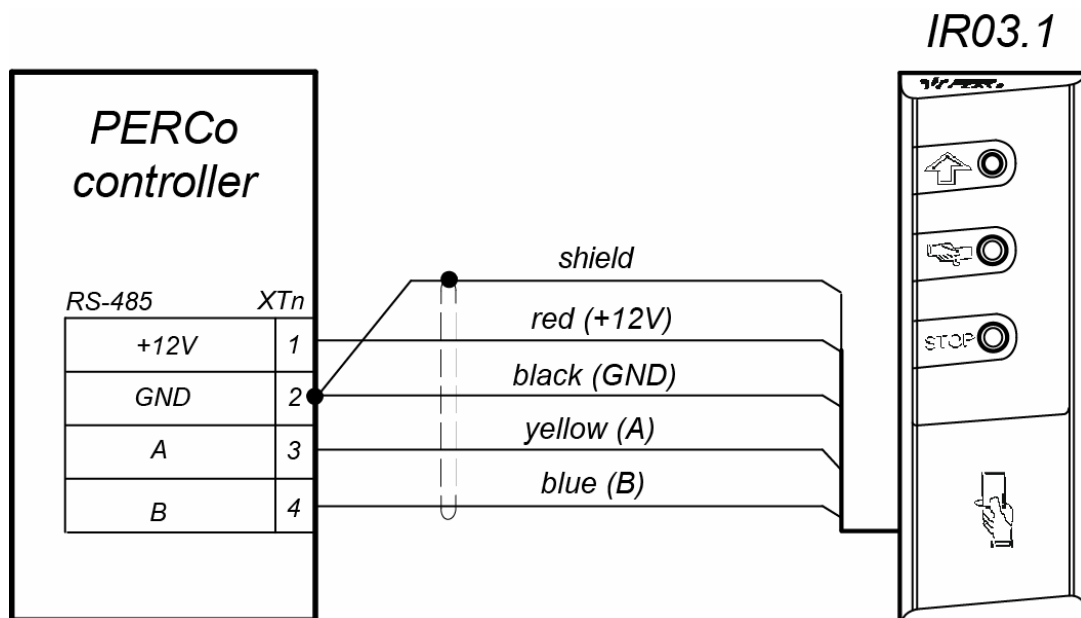

Figure 5. Connection layout of the reader to PERCo system controller via *RS-485*
- Lay the cable, fix it and connect to PERCo system controller (connection layout is shown in Fig. 5 and in controller manual). For extension of a reader cable the twisted pair cable must be used provided that A and B signal lines are in one pair.